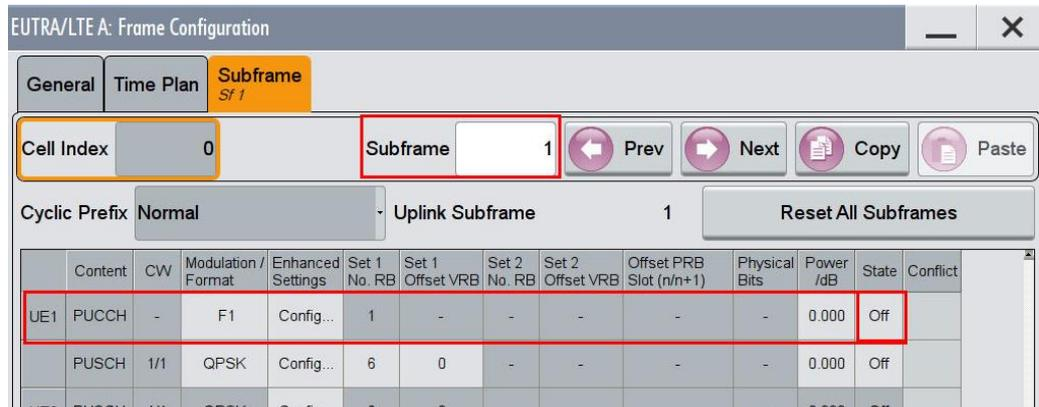

Fig. 3-118: In the second configurable subframe (subframe #1), the PUCCH is not transmitted (state Off)
10. Make sure that the PUCCH in the second configurable subframe is not transmitted.(State **Off**) (Fig. 3-118)